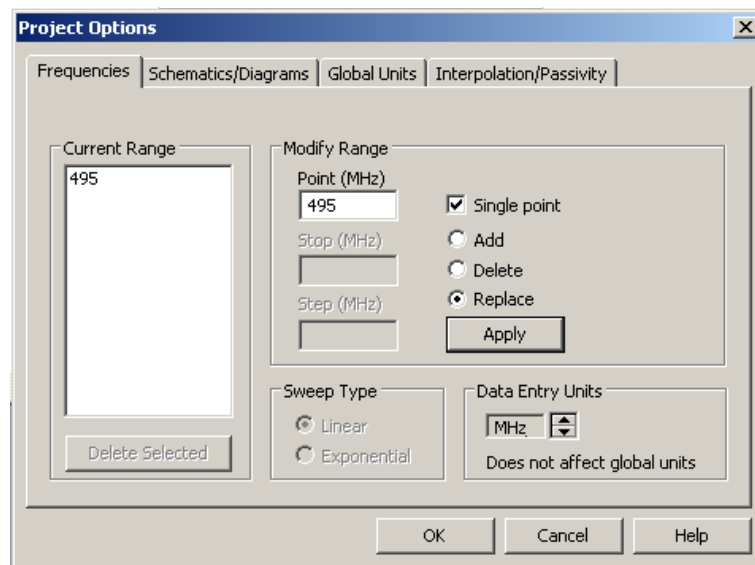

Figure 7.3: Chart 5 : Project Frequencies
- Ensure your 'frequencies' tab is as shown in figure 7.3.